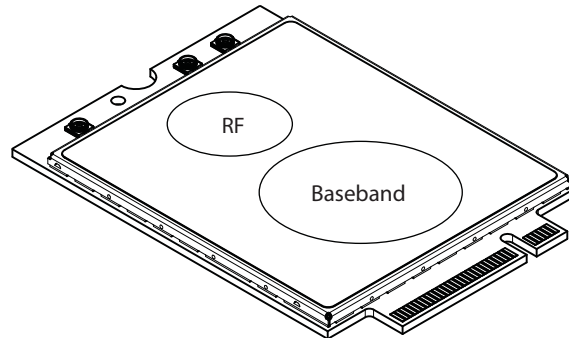

Figure 7-4: Shield Locations (Top View)
Specific areas requiring heat dissipation are shown in Figure 7-4:
- Monitor temperature at all shield locations. Attach thermocouples to the areas indicated in Figure 7-4 on page 58 (RF, Baseband).